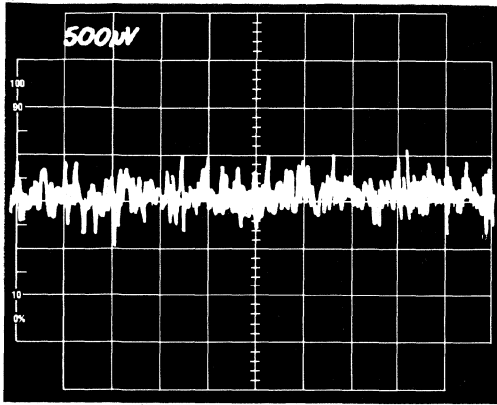

Figure 9. Voltage Noise, 0.1Hz to 10Hz, G = 1000
**Gain Nonlinearity and Noise:** Gain Nonlinearity is specified as a percent of full-scale output, and for the 1B32 it is  $\pm 0.005\%$  max over the full span. The chopper design also offers exceptional low-noise performance, with typical input noise of 1 $\mu$ V p-p in the 0.1Hz to 10Hz bandwidth (Figure 9).